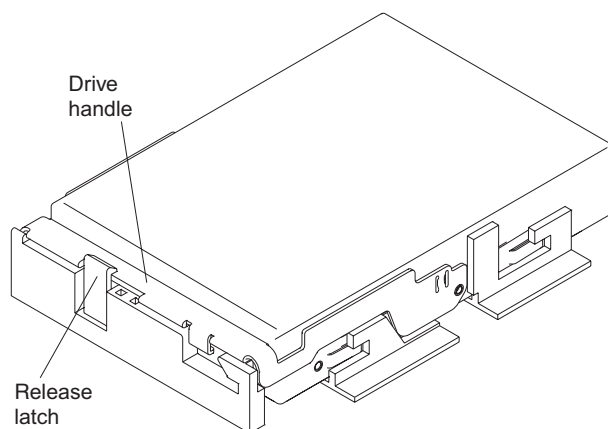

Figure 71. Locking the drive in place
- c. Lower the drive straight down; then, rotate the drive handle down until the drive snaps into place under the drive release lever. See Figure 71 on page 103.